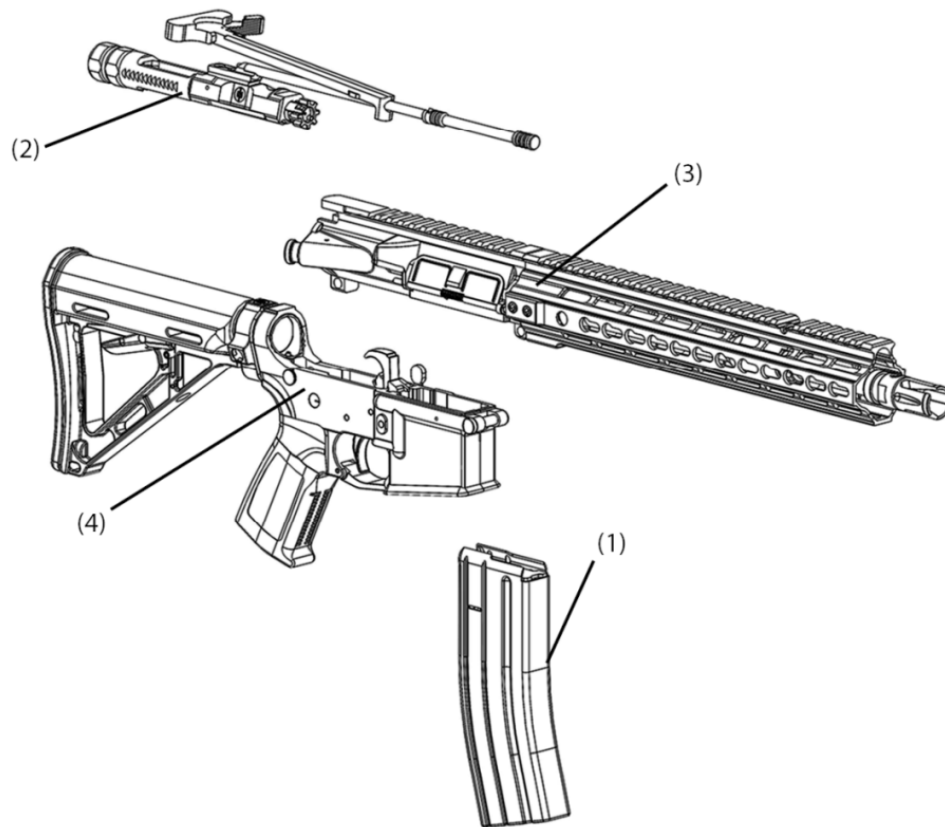

Figure 2.19
Remove Magazine (Fig. 2.19, 1), bolt carrier/charging handle assembly (2), and upper receiver and barrel assembly (3) from lower receiver and buttstock assembly (4).